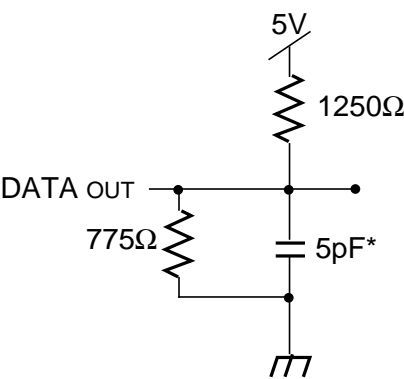

Figure 2. Output Test Load
1. Transition is measured $\pm 500\text{mV}$ from Low or High-impedance voltage Output Test Load (Figure 2).
1. Transition is measured $\pm 500\text{mV}$ from Low or High-impedance voltage with Output Test Load (Figure 2). This parameter is guaranteed by device characterization but is not production tested.
7. This parameter is determined by device characterization, but is not production tested. Transition is measured $\pm 500\text{mV}$ from steady state with the Output Test Load (Figure 2).